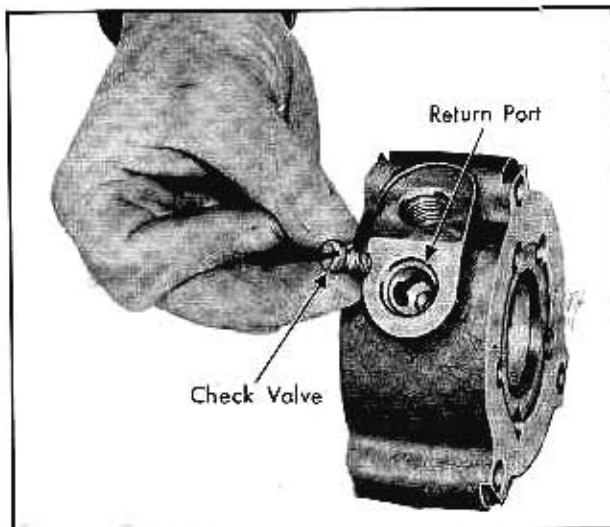

Fig. 7-25 Removing Check Valve
3. Remove inlet fitting from valve body, and remove the check valve through return port with a screwdriver. Fig. 7-25.